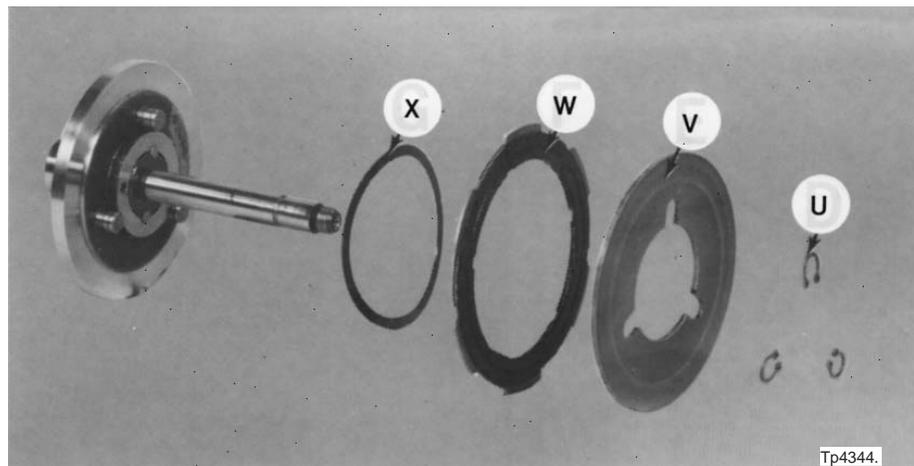

Figure 1.17 - Longitudinal Clutch Components
- d) Remove snap rings "U", clutch disc "V", clutch plate "W", and wave washer "X", Figure 1.17 .
- a) Replace wave washer “X”, clutch plate “W”, clutch disc “V”, and snap rings “U”, Figure 1.17 .